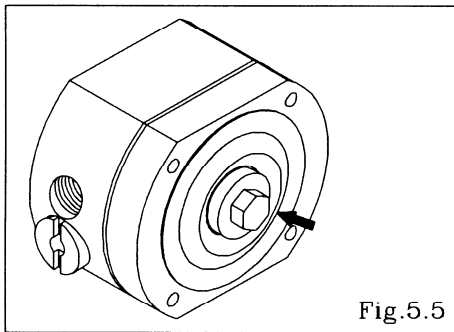

Fig.5.5
- Remove the center disk using the cap and disk remover. (special tool: Part No. 771132). (NDP-5FPT, FVT, FDT) [Fig.5.5]
- Remove the center disk from one side. (NDP-15) [Fig.5.5]